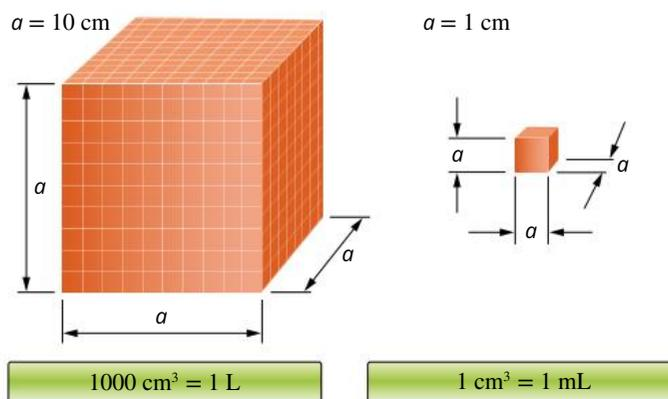

FIGURE 14.1.5 Cubic centimetres, millilitres and litres are the most commonly used units of volume.
There are several different units used for volume, some of which are represented in Figure 14.1.5. The common units are litre (L), millilitre (mL), cubic metre (m^3) and cubic centimetre (cm^3). Small volumes of gas are usually measured in millilitres (mL) or litres (L). Very large samples are measured in cubic metres (m^3).